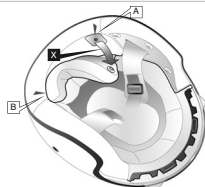
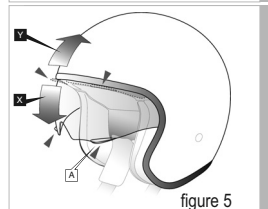

figure 4
figure 5
REMOVABLE INNER HEAD CASING - see figures 4
the two automatic fasteners (A & B) at the rear (see fig. 4), pulling the two fasteners towards the inside of the helmet carefully (X). When the rear of the casing has been released detach the frame attached to the casing itself from the integrated polystyrene frame (see fig. 5) pulling carefully in direction (Y) until the three constraint points have been fully released (C, D & E).
Operation - see figure 5